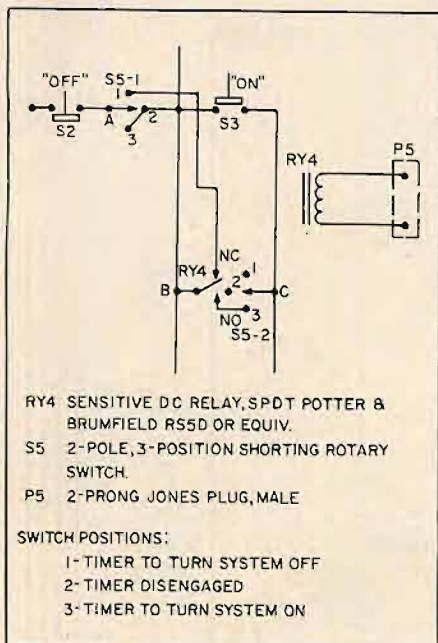

Fig. 6. Modification of control box for clock-timer.
This timer is incorporated into the relay circuit (A) of Fig. 3 by adding the circuit of Fig. 6 at the points labeled A, B, and C. The relay  $RY_1$  in (A) of Fig. 3 is now replaced by a sensitive d.c. relay with SPDT contact. The plug  $P_5$  is connected to  $P_1$  (Fig. 5) by a twin lead. The switch  $S_5$  enables one to disable the timer, or make it turn the system on or off (but not both) at a given time. This timer can, of course, be used without the entire circuit (A) of Fig. 3. In this case  $RY_1$  should have DPDT contacts, and one pole should be hooked up as a holding contact, while the other is used to switch power to the system.